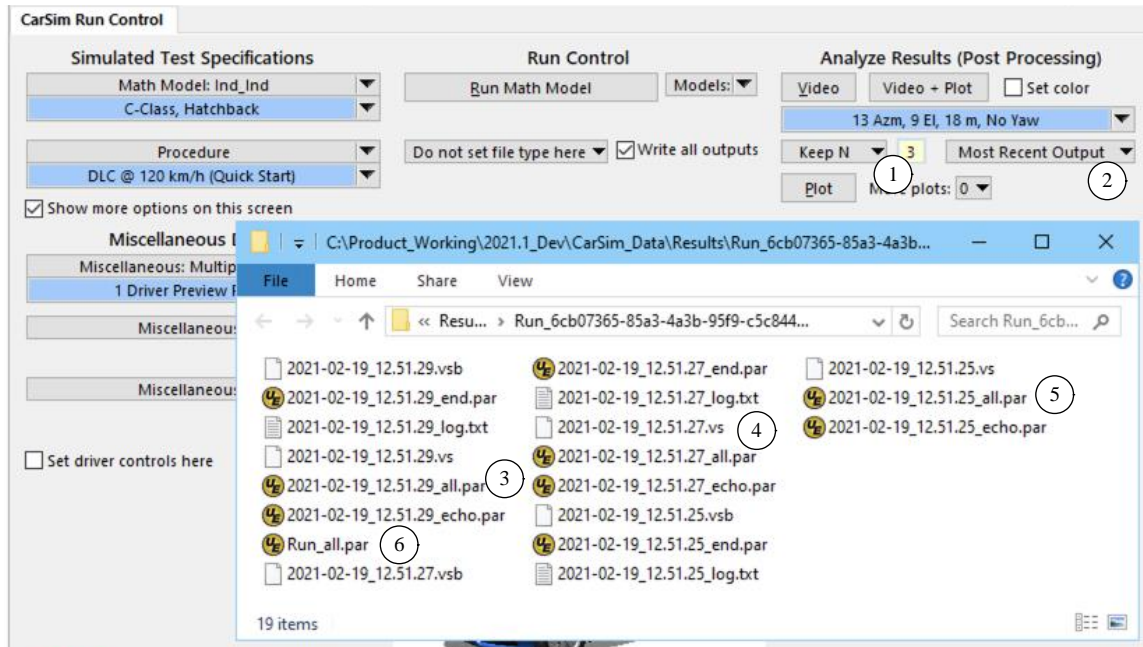

Figure 32. Results folder when three simulations are kept.
When results are kept from multiple simulations, the files are named according to macros set in the Simfile. By default, the macros use the date and time. For example, Figure 32 shows the Results folder for the case of keeping the three most recent sets of simulation files (1).